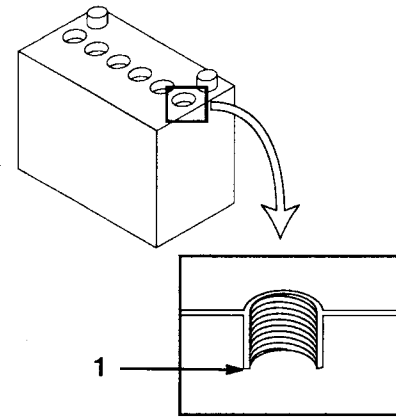

Figure 48
4. Open the cell covers to see into the cells. The electrolyte must be up to the lower part of the tube (Fig. 48). Do not allow the electrolyte to get below the plates.
2. Lift off the filler caps (Fig. 48).
3. Slowly pour distilled water into each battery cell until the level is up to the lower part of the tube (Fig. 48).